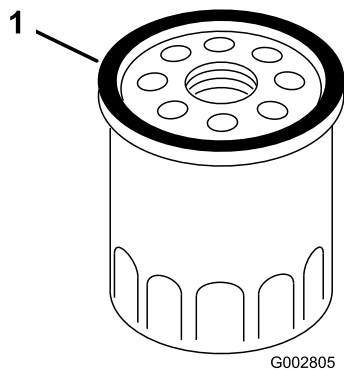

Figure 26
- Use your finger to coat the gasket on the new filter with oil (Figure 26).